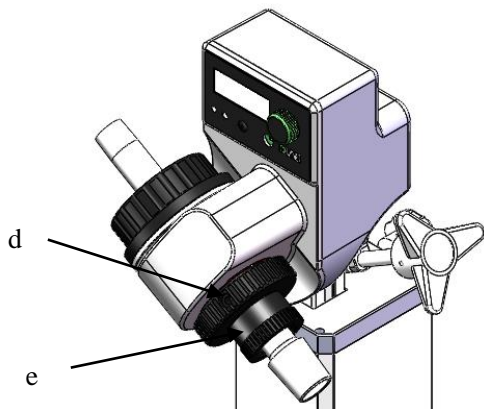

Fig. 13
- Rotate the locking device (d) (Fig. 13) by 60° counterclockwise to mount the evaporating tube in place, and rotate the locking device (d) clockwise for locking.